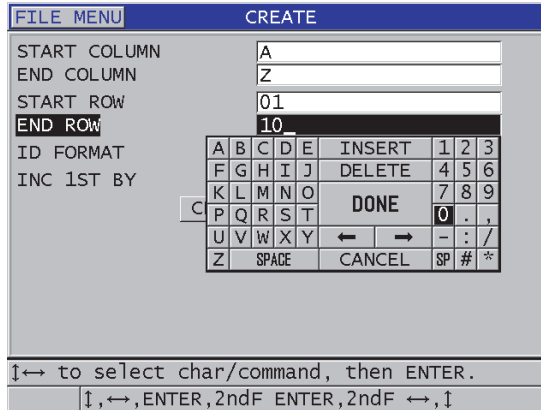

Figure 11-10 Configuring the ID range for a 2-D grid data file type
3. In the second page of the **CREATE** screen (see Figure 11-10 on page 194):